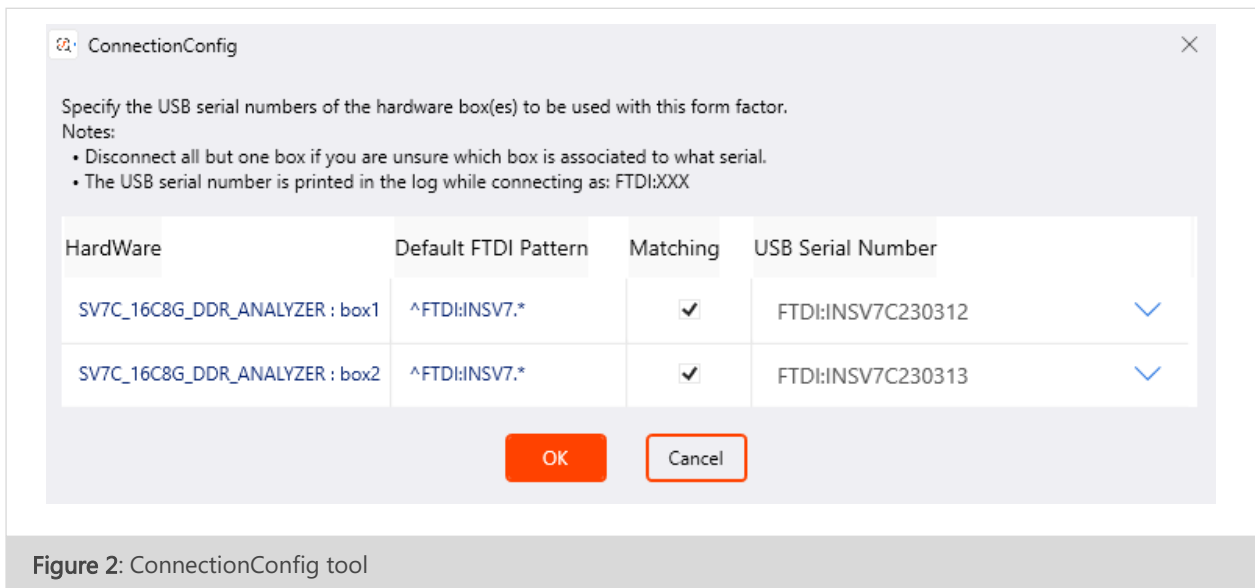

Figure 2: ConnectionConfig tool
2. Connect the USB cables from your PC to both SV7C boxes and turn the boxes on. Open the "ConnectionConfig" tool (IESP -> ConnectionConfig). Set the serial numbers for box 1 and box 2 accordingly as in **Figure 2** below. The serial number can be found underneath the SV7C box. It is important to externally label the first SV5C unit as "Box 1" and the second unit as "Box 2". This labelling must be kept consistent during subsequent usage.